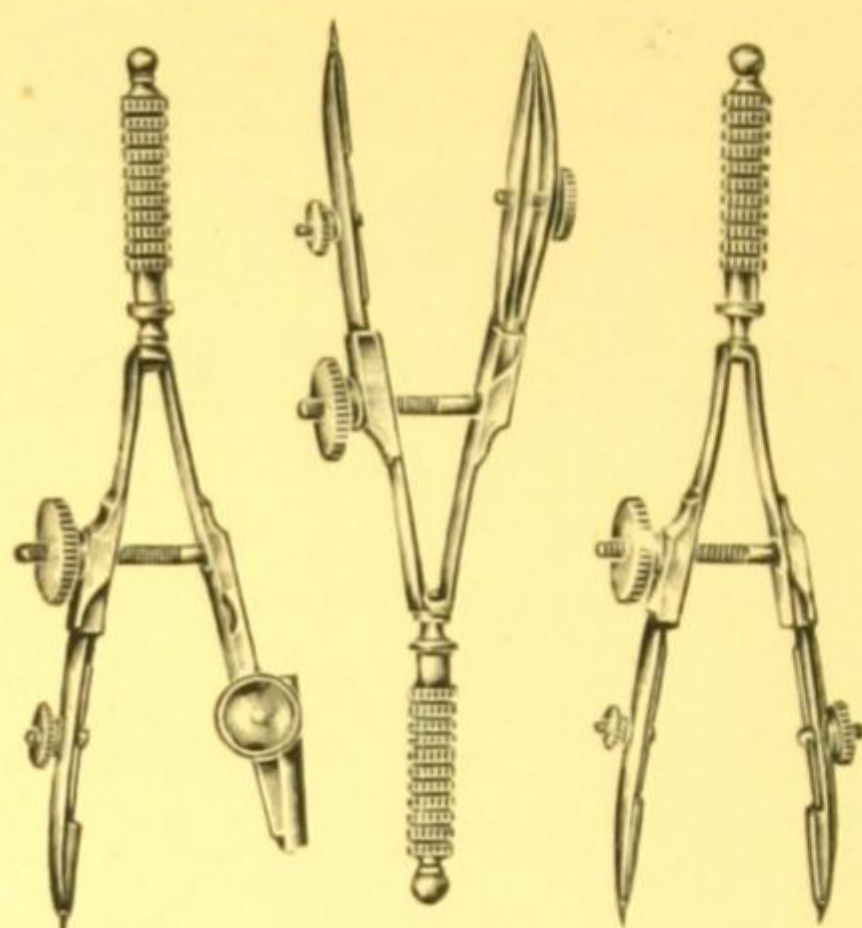

Fig. 178.
- SM 706.—**Spring Bows**, first grade English hand made with flat springs, side screws, nut and bolt needle points. The set of three, pen, pencil and divider, in case ..... Fig. 178 **£1 7 0**